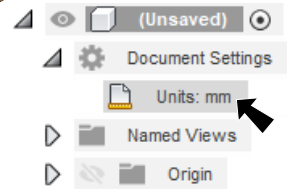

Fig. 1
Step 1. Confirm new document and units are mm, Fig. 1.